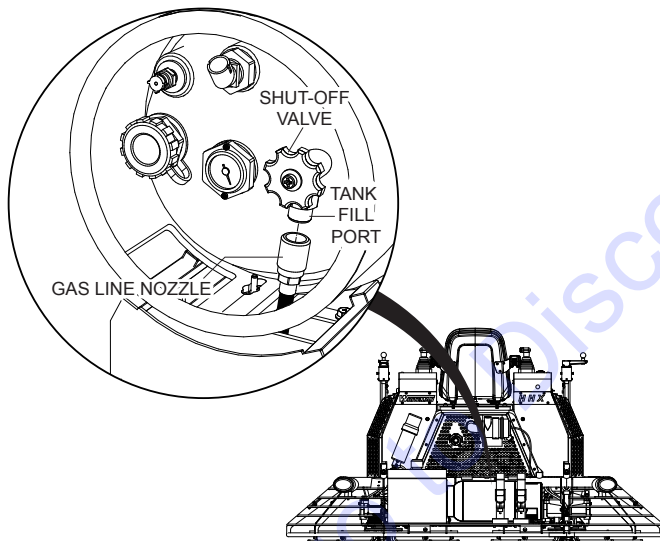

Figure 4. Disconnecting LPG Gas Line Nozzle
2. Disconnect LPG gas line nozzle (Figure 4) from LPG tank fill port.